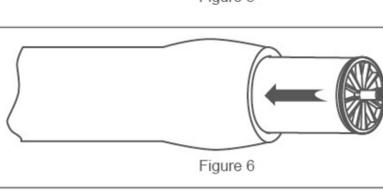

Figure 6
- e. After lubricating the seal ring of concentrated water and inner wall of the pressure vessel with glycerin, install the membrane approximately 2/3 from the inlet of the pressure vessel (Figure 6). Carefully and smoothly install the membrane, especially the first membrane.